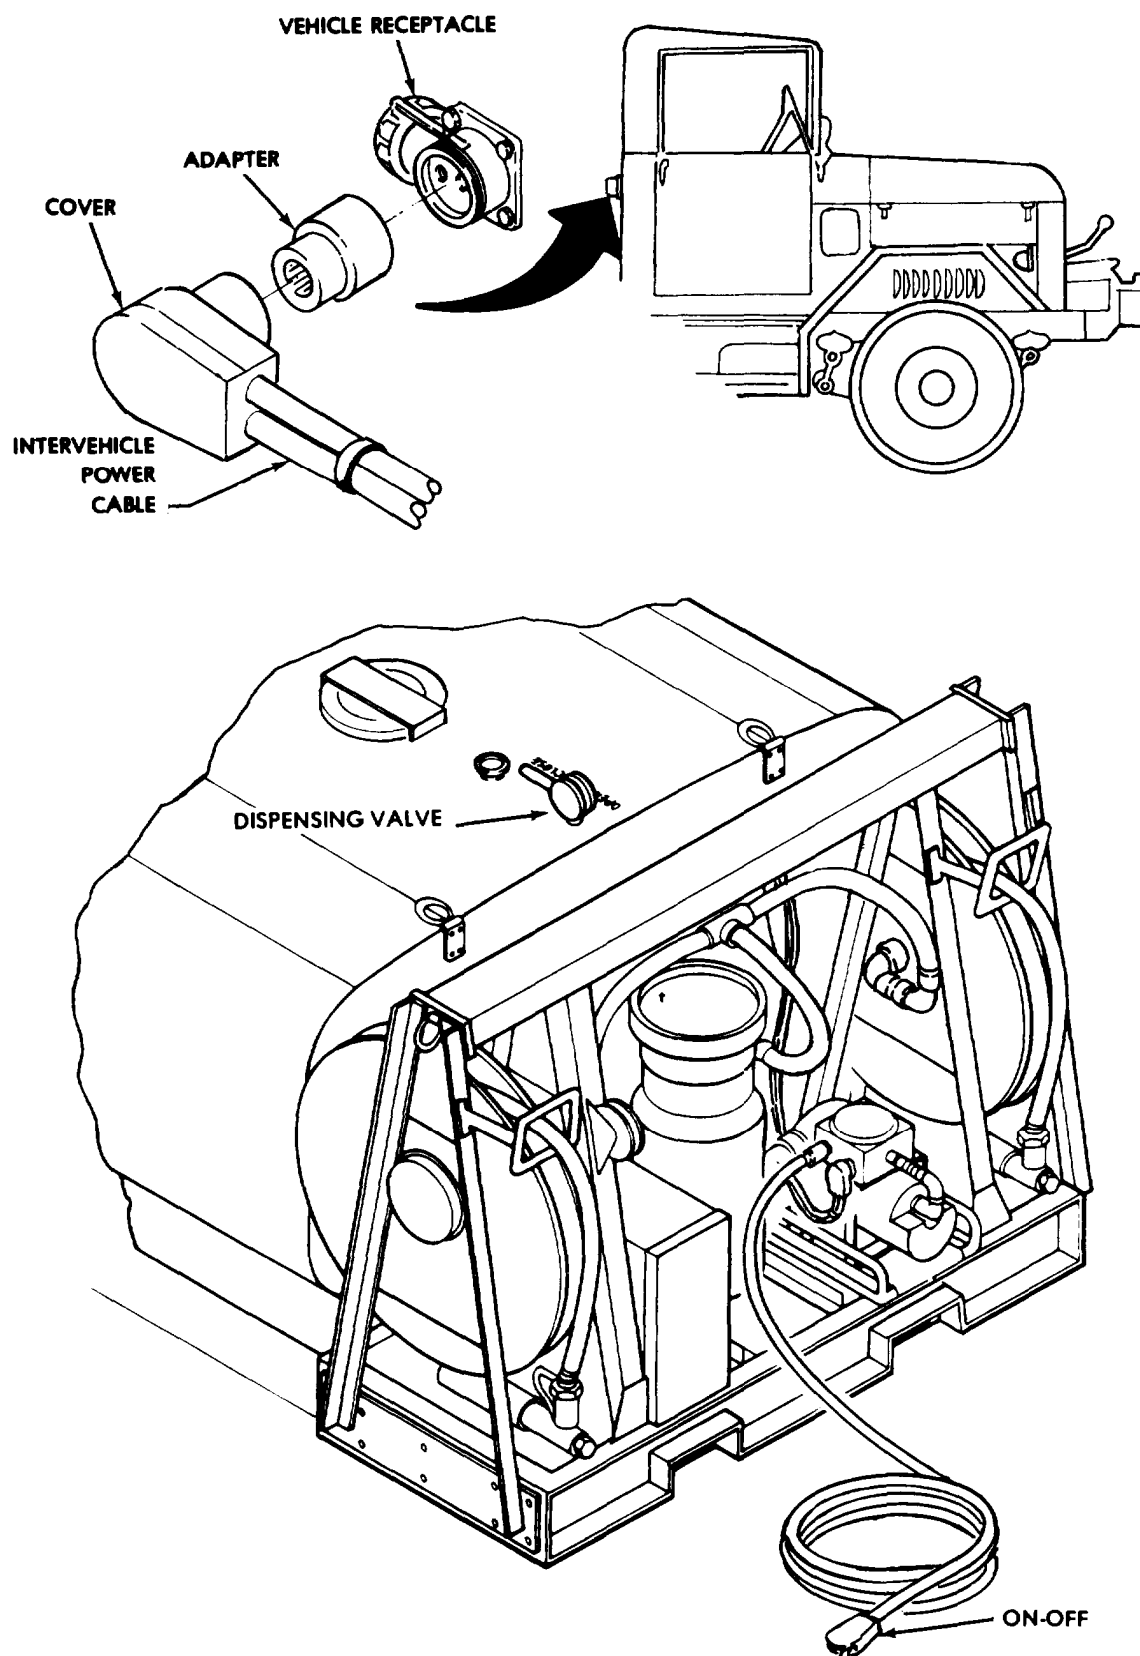

Figure 2-1. Tank and Pump Unit with Electric Motor.
See figure 2-1 for a general description of the controls that an operator will normally be concerned with. For specific operating instructions, see Sections III and IV of this chapter.
(1) The tank and pump unit is used to dispense automotive, aviation and burner fuel. However, only one grade of fuel should be carried in and dispensed from the unit at a time. Since the pumping assembly is highly adaptable, dispensing with the tank and pump unit may be done in a variety of ways to meet different situations in the field. The following paragraphs cover some common operational procedures for the tank and pump unit in the field (see figures 2-1 and 2-2).
(a) Connect intervehicular power cable, with adapter, to vehicle receptacle and junction box receptacle J2 (figure 2-1).
- (b) Connect ON-OFF switch cable to junction box receptacle J1 (figure 2-1).
(g) Open the tank dispensing valve and place motor start switch in the ON position (figure 2-1).